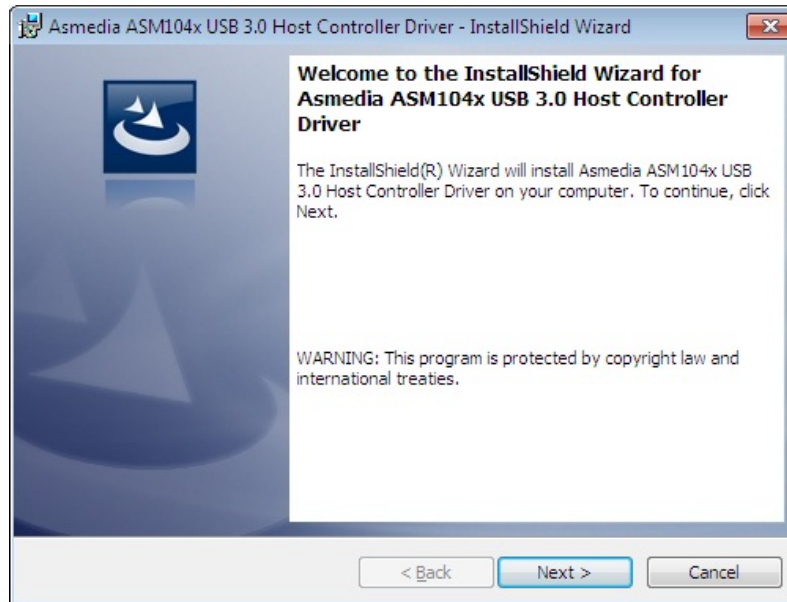

Figure 6-21: USB 3.0 Driver Welcome Screen
Step 4: The **Welcome Screen** in **Figure 6-21** appears.